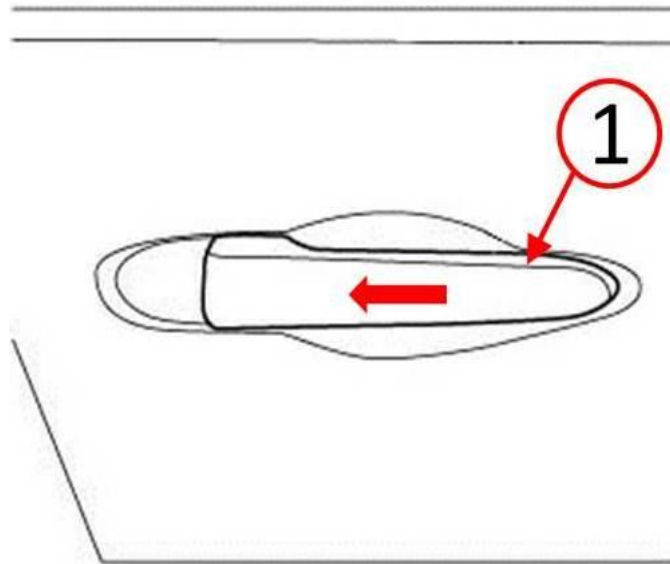

Fig. 6 Slide Door Handle Rearward
7. Slide the exterior door handle rearward (Fig. 6).